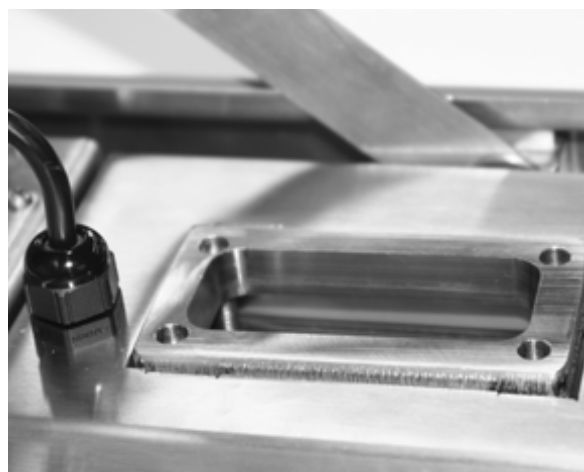

Figure 1-8. Incorrect and Correct Orientation of Main Plate
Ensure that the split communications cable main plate is oriented so that the tapered side is facing up as shown in Figure 1-8. An easy way to tell if the main plate is oriented correctly is to note that the four holes on the main plate have counter bores which should face down.
10. Place the O-ring over the cable end and into the groove around the split seal plates (Figure 1-8, right image). This will hold the plates together and also offer a watertight barrier.